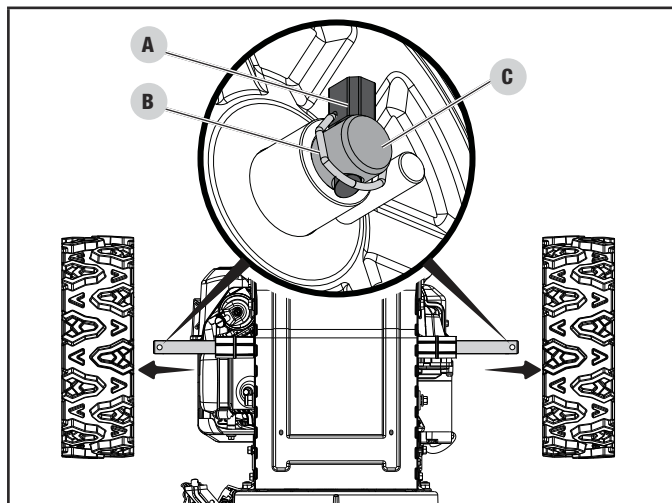

Figure 1
To make the lower handle easier to assemble, remove the wheels from both sides. Tip the snowblower onto the front of the auger housing to put the wheels up at convenient working height. Next steps of handle assembly and speed control connecting rod assembly are easier to perform with snowblower sitting on front of auger housing. For each wheel, locate the pin (A) holding the wheel on. Take note of the orientation of the pin, with short side of beveled end toward the end of shaft, to facilitate the lift ring to swing closed. Lift the ring (B) around the axle (C) and then pull the pin (A) out holding the wheel on (Fig.1). Repeat on the other side. Remove the wheels.